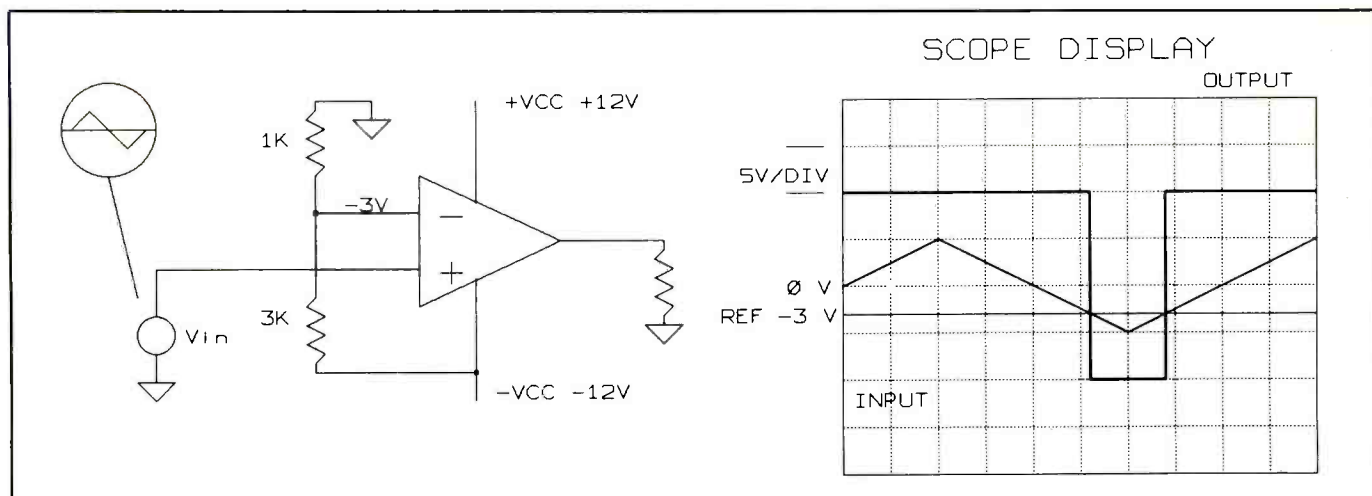

Fig. 9. Details of a noninverting negative-reference comparator circuit.
- **Common Mode versus Frequency.** Common-mode rejection ratio is also frequency-sensitive. The curve in **Fig. 9** indicates that CMRR at 1 MHz is less than 20 dB, which is less than 10:1. It's better than 60 dB (1,000:1) at 5 kHz. Again, if all you're concerned with is 60-Hz hum, this is a great device to use. However, if leads are close to a CPU or other digital circuit, this chip may not be suitable. As an example, the AD 843 has 40 dB of rejection (1,000:1) at 1 MHz. As you can see, you may have to do some spec-sheet shopping to get the right op amp for your design.